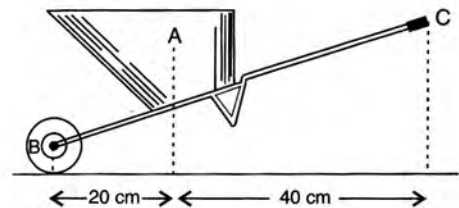

Fig. 3.18
10. Fig. 3.18 below shows a wheel barrow of mass 15 kg carrying a load of 30 kgf with its centre of gravity at A. The points B and C are the centre of wheel and tip of the handle such that the horizontal distance $AB = 20$ cm and $AC = 40$ cm.